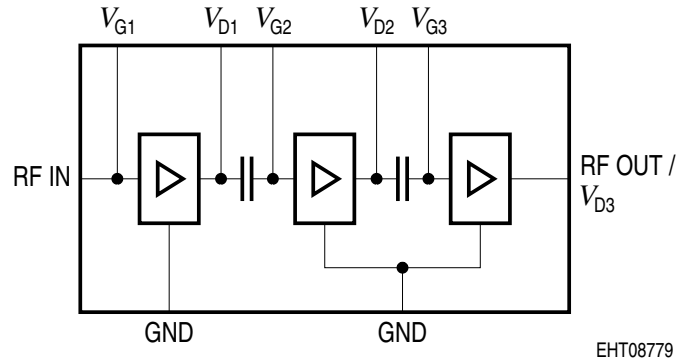

Figure 1 Functional Block Diagram
- ¹⁾ The gate voltage of the 1st RF Amp is not blocked internally (see also **Figure 1**). Therefore V_{G1} must be blocked externally at RF IN.